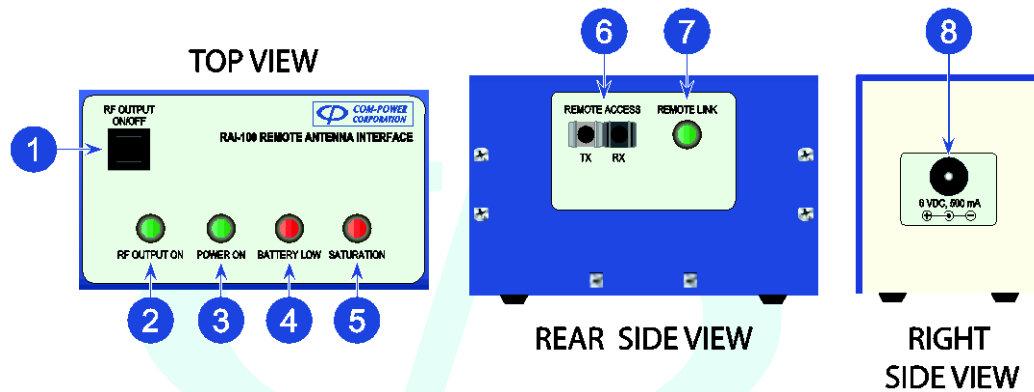

FIGURE 4 - RAI-100 Connections/Controls Indicators
- 2) INSERTION LOSS MEASUREMENTS **(I)** - Without changing any equipment settings, and with the equipment set up as shown in Figure 4, measure and record the signal level (in dBμV) at the same frequencies used in Step 1.